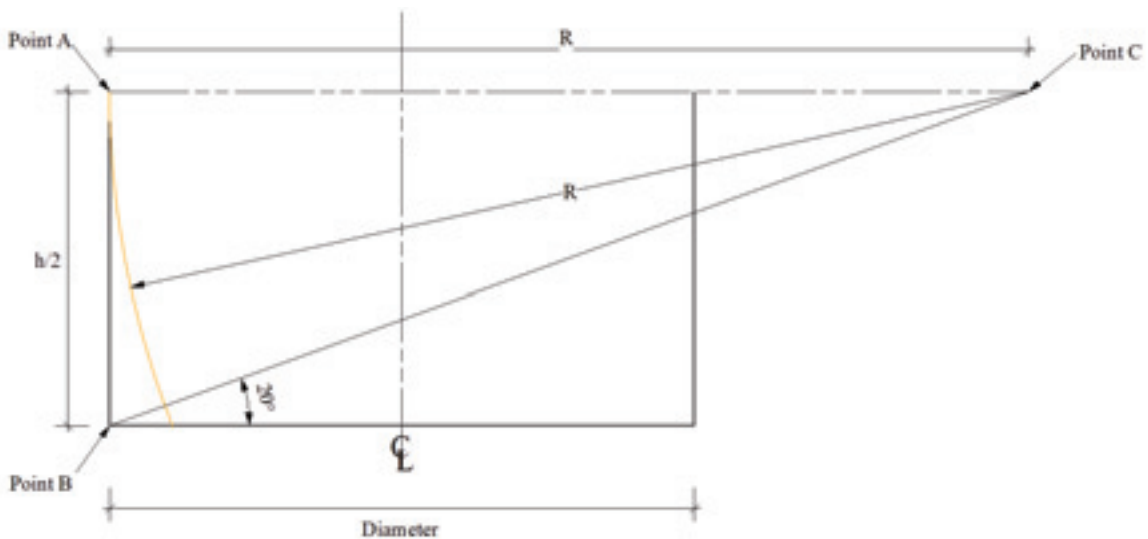

Fig. 80: Tank shape, bottom — Step 3
- Line AC is the radius of the curve at the bottom of the tank. To find the shape, draw the arc from Point A to Point B (figure 80). The 20-degree limit is to assure that the mortar will not fall off while it is being applied by trowel on this section of the form.